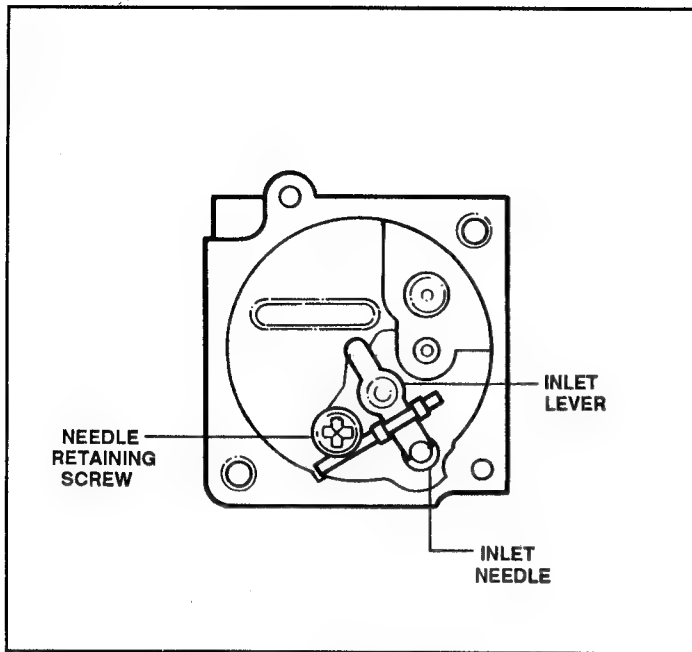

FIGURE 20
3. Remove the inlet needle retaining screw to release the metering system. See Figure 20.
6. Replace welch plugs only if a leak is found. Gently punch the welch plug, being careful not to damage the casting below. Refer to Figure 20.